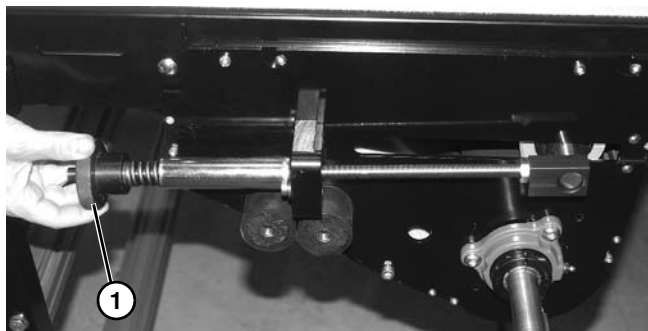

Figure 184
2. Loosen tension on drive belt by rotating tensioning knob (**Figure 184, item 1**) counterclockwise on both sides of conveyor.